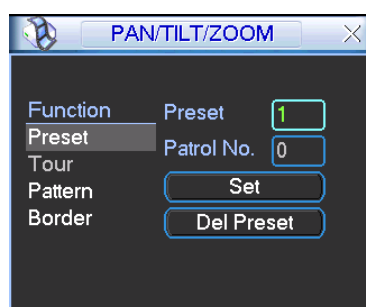
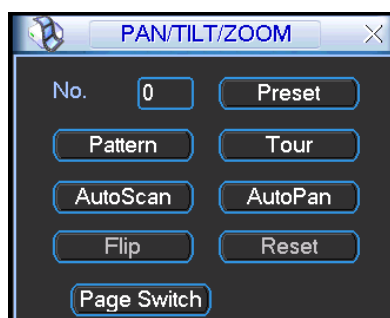
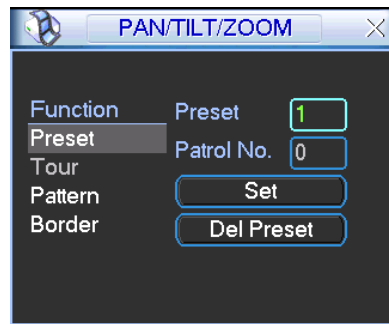

Figure 4-39
Figure 4-40
Figure 4-41
In Figure 4-36, please click the “set” button. The interface is shown as below. See Figure 4-39.
In Figure 4-36, click page switch button, the interface is shown as in Figure 4-40.
- The following setups are usually operated in the Figure 4-36, Figure 4-39 and Figure 4-40.
In Figure 4-39, click preset button and input preset number. The interface is shown as in Figure 4-41.
In Figure 4-40, please input preset number in the No. blank, and click preset button.
In Figure 4-39, input patrol (tour) number in the No. blank and click patrol button
In Figure 4-39, click pattern button and then click "begin" button. The interface is shown as in Figure 4-43. Then you can go to Figure 4-36 X to modify zoom, focus, and iris.
In Figure 4-39, input mode value in the No. blank, and click pattern button.
In Figure 4-40, click “Auto Scan” button, the system begins auto scan. Correspondingly, the auto scan button becomes Stop button. Click stop button to terminate scan operation.
In Figure 4-40, click page switch button, you can see an interface is shown as below. See Figure 4-45. Here you can set auxiliary function. The aux value has relation ship with the Aux button of the decoder. Click page switch button again, system goes back to Figure 4-36.